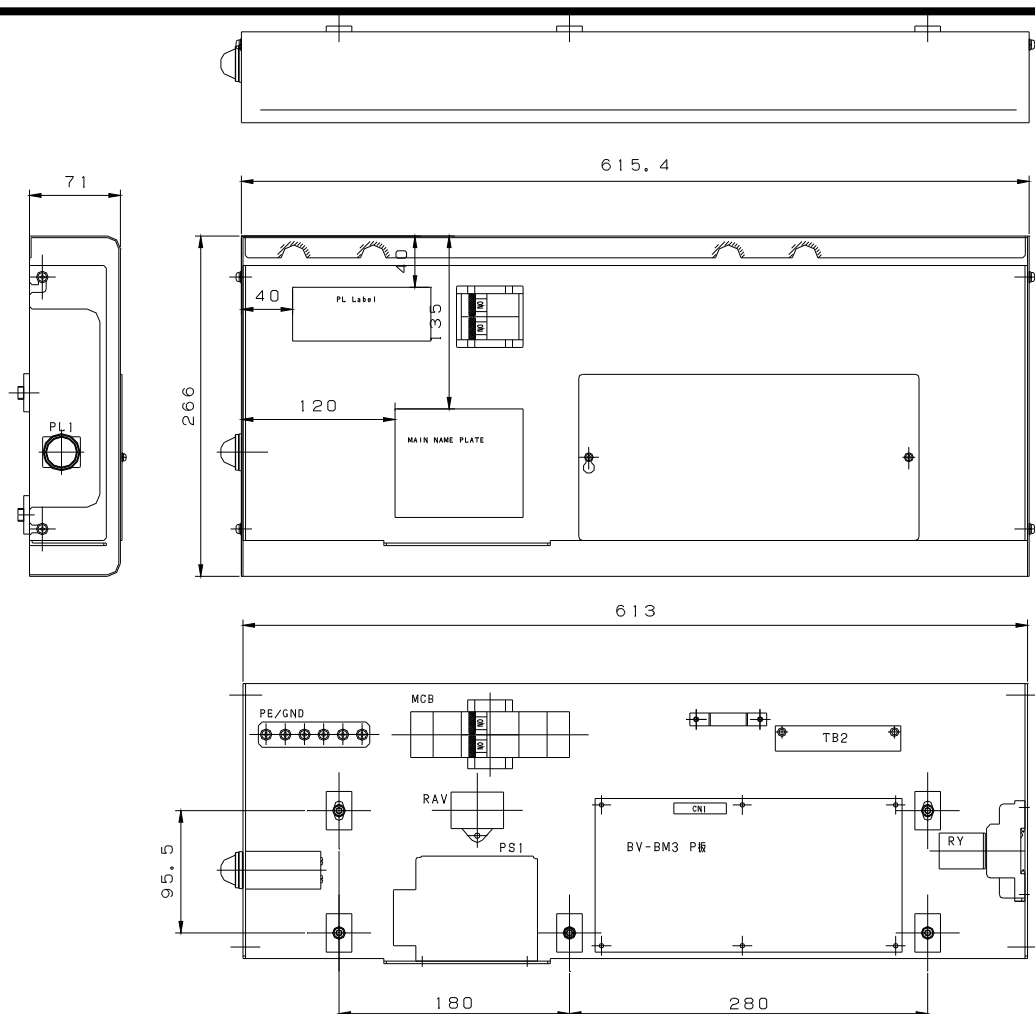

Fig. 14 For example the outward form of the CMC-BM unit
- A) Check for short circuit and earth ground fault on the secondary side of the circuit breaker (see Fig. 14) on the CMC-BM board. Shut off the power for CP1 through 8 of CMC-BC. Since the line is connected to indicator lamp, short circuit check should show 3-4 kΩ. Earth ground fault shall be open.